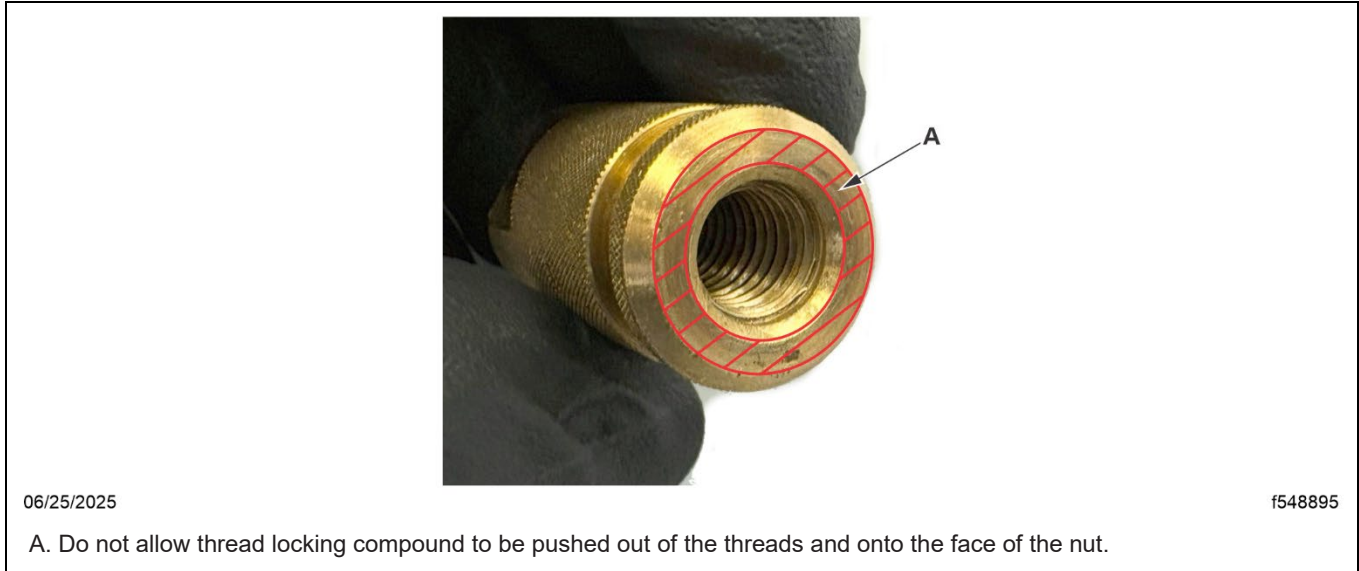

Fig. 3, Jumpstart Nut
16. If so equipped, ensure the jumpstart-nut does not get the thread-locking compound on the face that contacts the cable terminal. See Fig. 3.